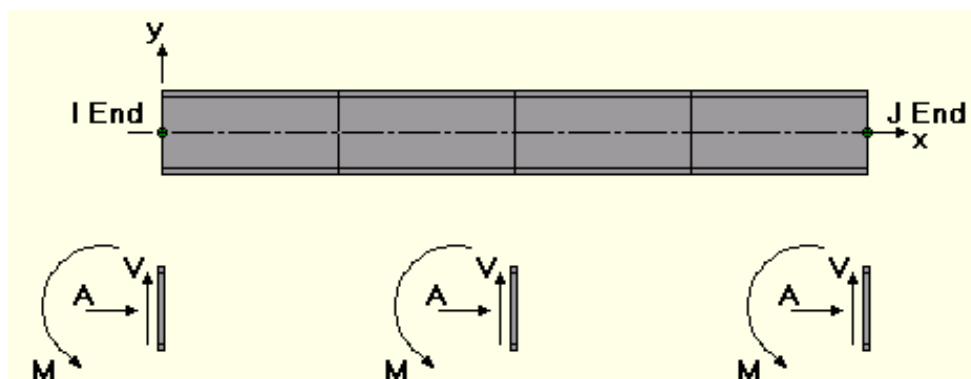
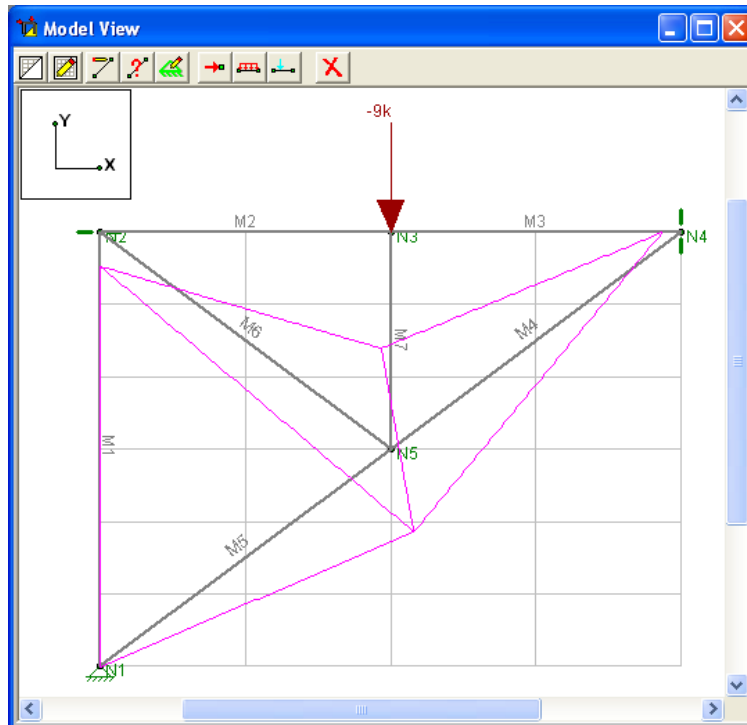
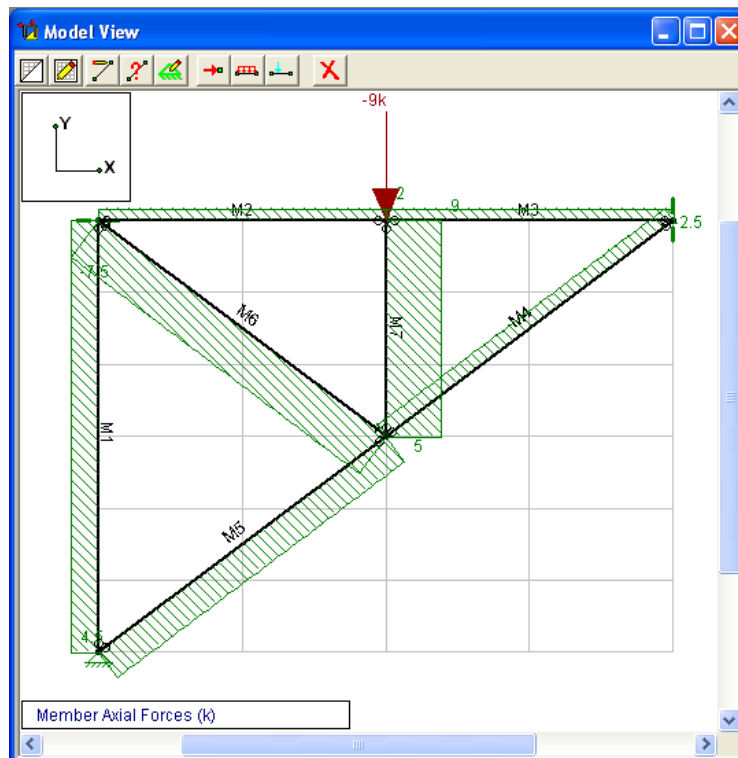

Figure 13
Figure 14
Figure 15
To plot the deflected shape, click on the  icon from the manual bar. Figure 14 shows an exaggerated sketch of the deflected shape in color. Plot the axial force along each member by clicking  on the manual bar (see Figure 15). Values of the member forces can be obtained by clicking **Member Forces** from the **Results** toolbar. As for the sign convention, the signs of these results correspond to the member's local axes, using the right hand rule. The left side forces at each section location are displayed. There are three force values for each section location. These are axial force, shear and moment. As can be seen in Figure 13, the section forces listed at any given section are the *left side* forces. For axial forces, compressive is positive. For moments, counter-clockwise around the member axis is positive. (Moment and shear are equal to zero for pin-connected truss members.)
- (6) Now click **Solve** from the manual bar to perform the structural analysis. Click **Joint Reactions** from the **Results** toolbar to view the reaction forces (see Figure 25). Click **Joint Deflections** for the deflections and rotation at each joint (see Figure 26). Click **Member Deflections** if you are interested in the deflections of the members (see Figure 27). The member internal forces at equally spaced sections along each member can be viewed by clicking **Member Forces** (see Figure 28). The sign convention of the internal forces is defined in Figure 13.